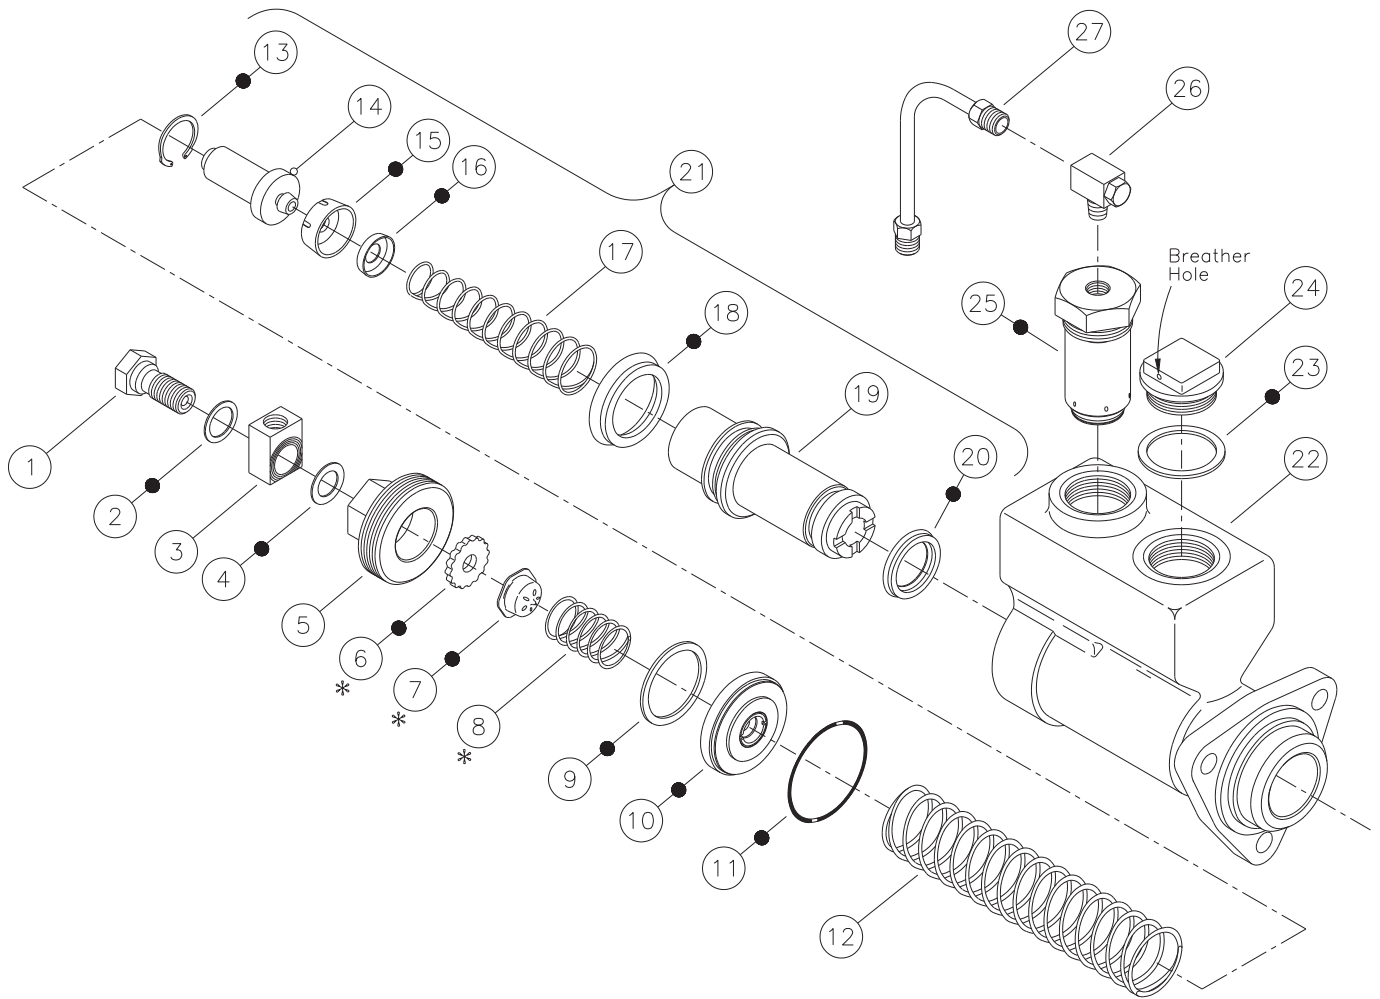

FIGURE 4
2. Install new retainer (16) on end of spring (17). Install spring, large end first, into piston (19).
NOTE: Retainer (16) removed from your cylinder may appear different than retainer (16) in Figure 4, replace with new retainer provided in repair kit.
3. Install new cup (15) on piston (14).
4. Insert piston (14) into piston (19) with cup (15) against retainer (16). Depress piston (14) and install new retaining ring (13).
5. Install new cup (18) and new cup (20) on piston (19). Note direction of cups (18 & 20).
6. Install piston assembly (21) into housing (22). Note direction of piston assembly (21).
7. Install spring (12) over piston assembly (21).
8. Install new o-ring (11) in housing (22) and new seal (9) on new retainer assembly (10). Install new retainer assembly (10) into housing (22). Note direction of retainer assembly (10).
9. Assemble new seat (6), new check valve (7), and spring (8) between retainer assembly (10) and end plug (5).
10. Install end plug (5) into housing (22). Use a large box end and torque end plug (5) 67.8-108.5 N·m (50-80 lb·ft).
11. Install new relief valve assembly (25) into housing (22) and torque 88.1-101.7 N·m (65-75 lb·ft).
12. Install fitting (26) into new relief valve assembly (25) and tighten.
13. Assemble new gaskets (2 & 4), fitting block (3), and line bolt (1) into end plug (5). Torque line bolt (1) 47.5-61.0 N·m (35-45 lb·ft). **NOTE: Hold fitting block (3) in a fixed position as shown in Figure 4 while tightening line bolt (1).**
14. Install upper tube nut on tubing assembly (27) into fitting (26). Torque upper and lower tube nuts 12.2-20.3 N·m (9-15 lb·ft).
15. **NOTE: If your filler cap (24) has a breather hole as shown in Figure 4, before installing filler cap (24) be sure the filler cap breather hole is free of all contaminants. Use air pressure to clean and dry this hole.** Install new gasket (23) and filler cap (24) on housing (22).